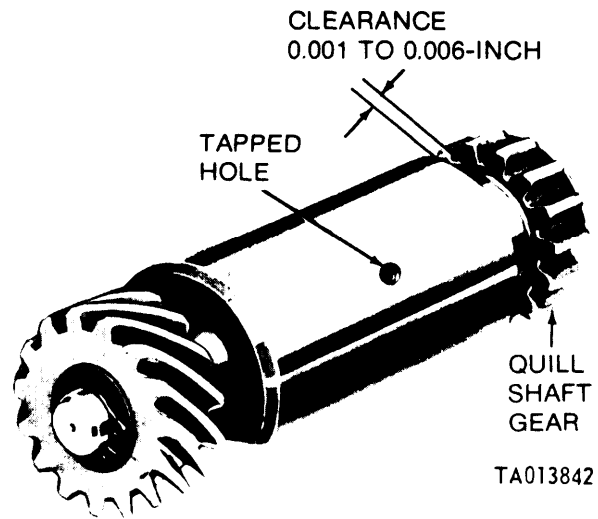

Figure 3-104. Inspection of quill shaft assembly.
a. Refer to figure 3-104. Check end play clearance between quill shaft gear and shaft spacer. Clearance shaft spacer. Clearance should be 0.001 to 0.006 inches. Inspect gears for chipped, cracked or broken gear teeth.